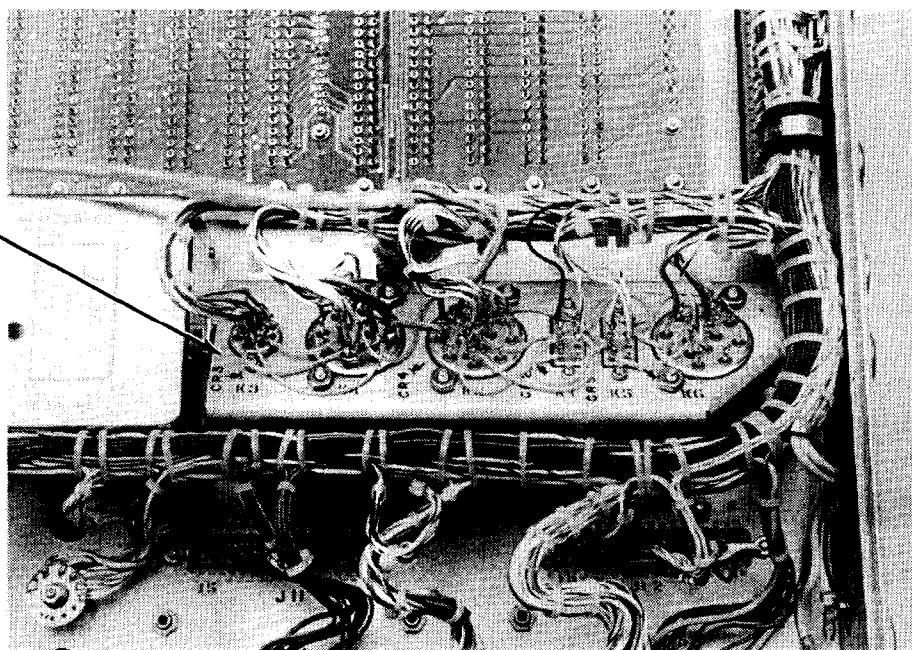

FIGURE 6
3. Fold back relay bracket with relays, Figure 6. Clip leads as close to relay terminals as possible. Avoid damaging relay terminals.